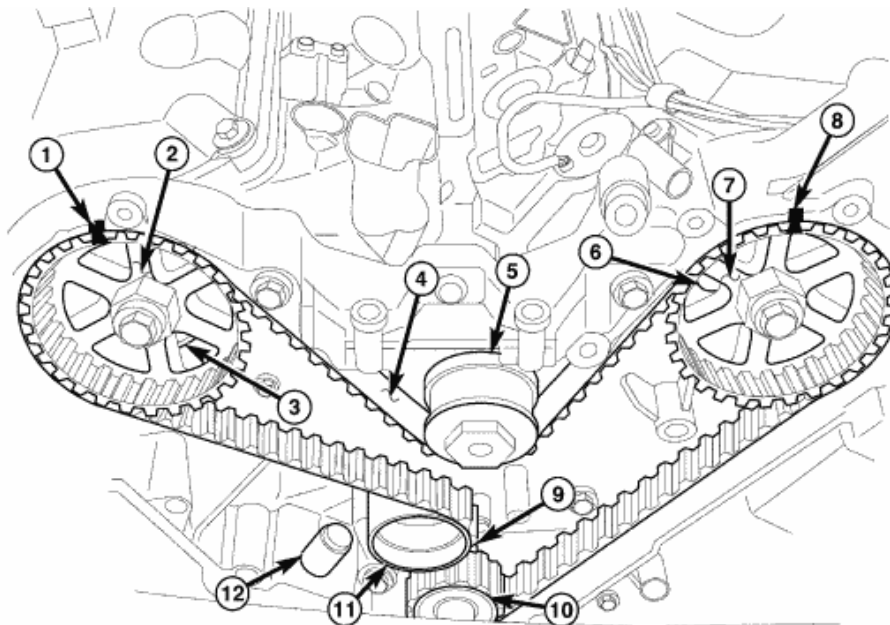

Fig. 154: TIMING GEAR ALIGNMENT
1. Rotate camshaft gears to the position shown (1,8,9) in. See Fig. 154. With the camshaft gears in these positions the lobes are in a neutral position (no load to the valve). This will allow the rocker arm shaft assembly to be tightened into position with little or no valve spring load on it.